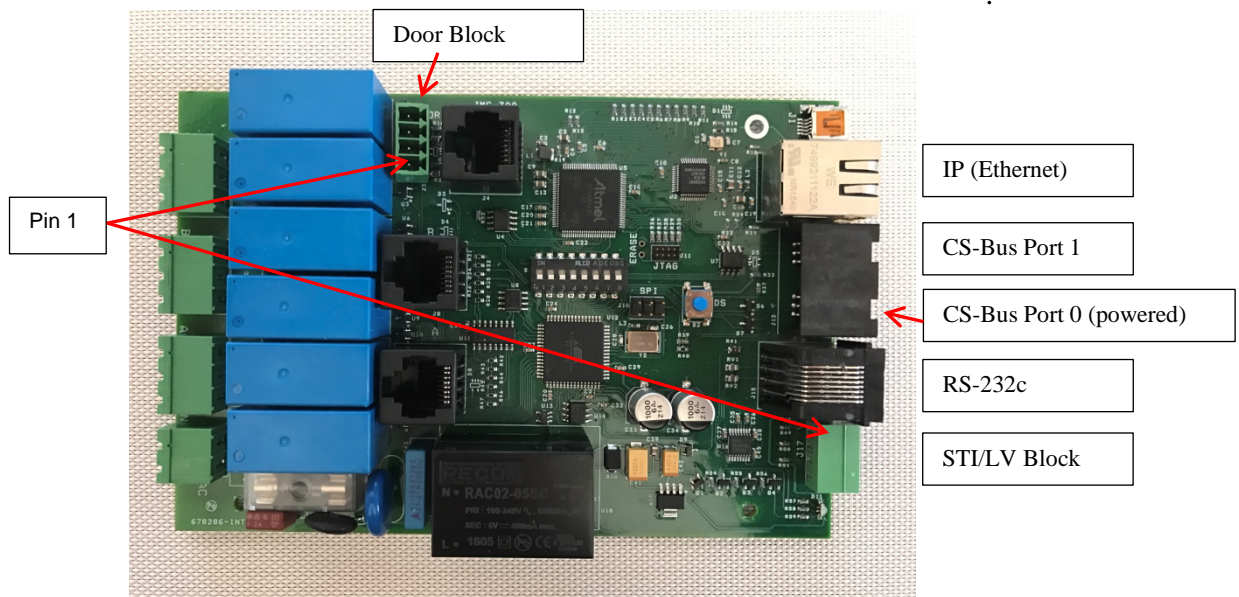
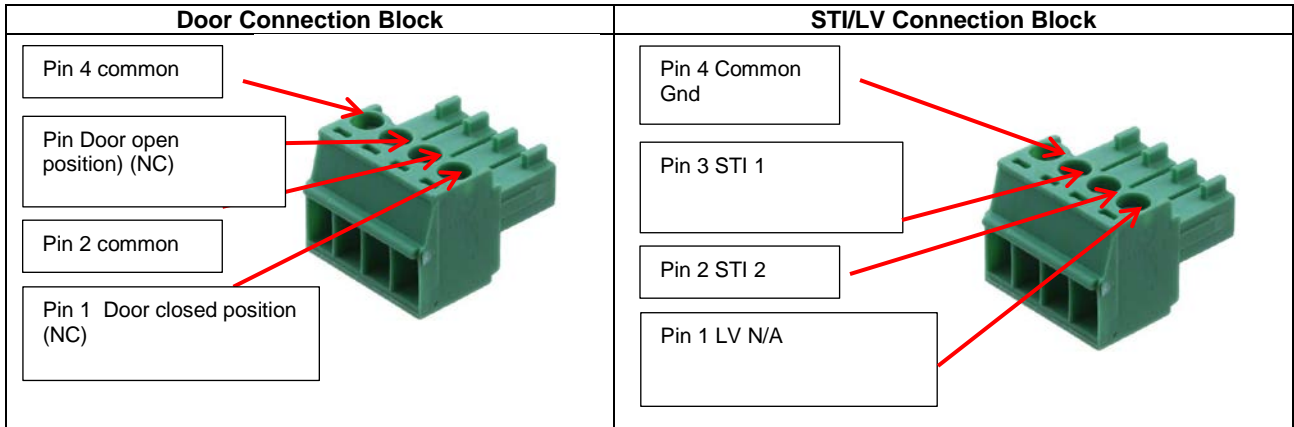

Figure 3
Figure 5
3.1 Ethernet Communication Wiring Directions (Internet Protocol). (See Figure 3 above.)
3.2 RS-232C Communication Wiring Directions (Serial-RS-232c Protocol). (See Figure 3 above.)
3.3 CS-Bus Connections (for connection to keypads and to additional IMC-100MKII-xx controllers). \(See Figure 3 above.\)
3.1 STI/LV and Door Connections. (See Figure 3 above and Figure 5 below)